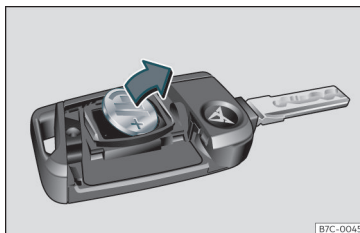

Fig. 112 Vehicle key: removing the battery.
- Extract the battery from the compartment using a suitable thin object >>> **Fig. 112**.
- Place the new battery in the compartment as shown >>> **Fig. 112**, pressing in the opposite direction to that shown by the arrow >>> **ⓘ**.